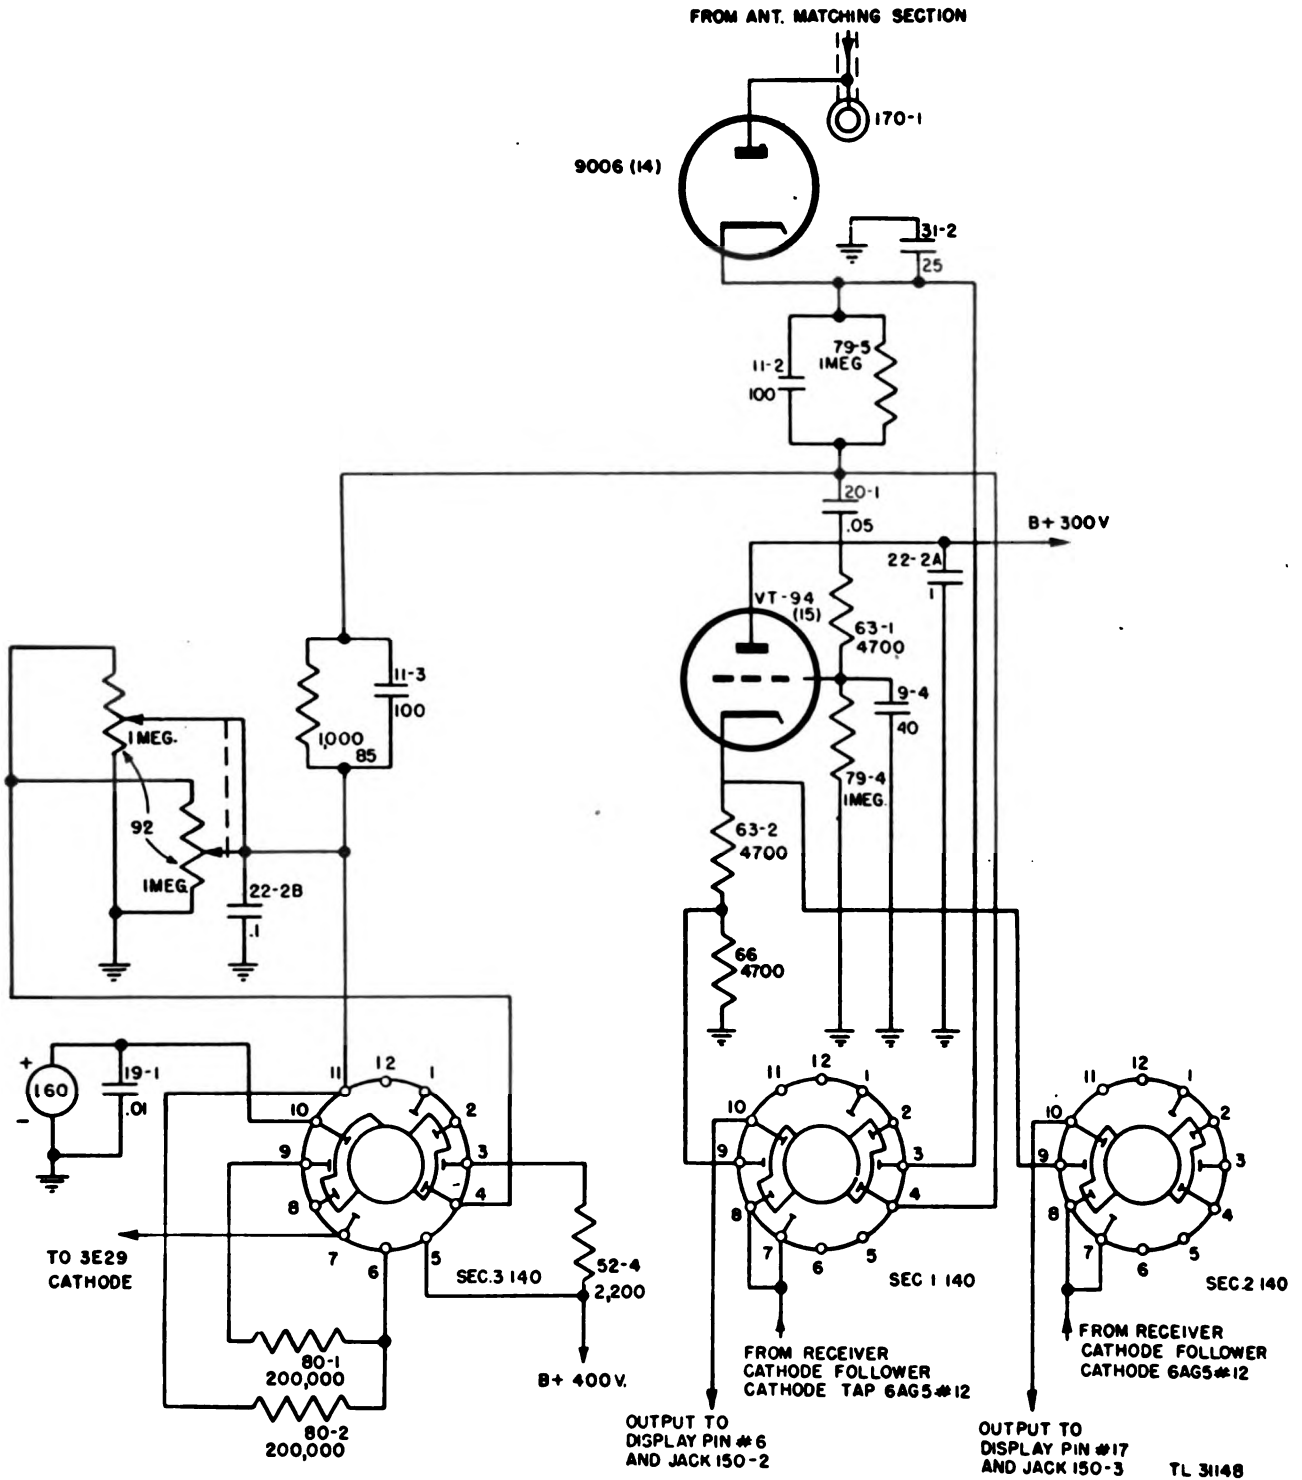

Figure 81. Transmitter, diode measurement circuit, partial schematic.
a. The diode tube 9006 (14) is used to measure the power output and pulse shape of the transmitter. (See fig. 81.) The plate of this diode is connected to the antenna transmission line. Two cathode resistors 79-5 and 85 are connected from cathode to ground. Capacitor 22-2B can be considered a short circuit at pulse frequencies. A test switch provides a means for measuring the power output of the transmitter. This switch has three positions and is spring loaded so that it remains in the OPERATE position. When thrown to the left, the switch connects meter 160 in the cathode circuit of tube 3E29 as previously described in paragraph 89. When thrown to the right the switch performs the following functions, in order to measure transmitter power:
(1) It shorts resistor 79-5 in the cathode circuit of tube 14, thus leaving a low value resistor 85 in the circuit.
(2) It connects a 400-volt supply to the bottom of resistor 85 (potentiometer 92 varies this voltage from zero to 400 volts).
(3) It disconnects the high-receiver output and connects in its place the high output of the cathode follower Tube VT-94 (15) to pin 17 on the plug of the rear of the receiver-transmitter. Pin 17 of this plug is connected to connector 5 on Rack FM-82 and from there is cabled to pin B of connector 105 on the interconnector.
(4) It disconnects the low receiver output and connects in its place the low output of the cathode follower Tube VT-94 (15) to pin 6 on the plug at the rear of the receiver-transmitter. These signals however are not used. This condition arises because the transmitter-receiver was originally designed for use with a slightly different radio equipment.
b. The rectified pulse from tube 14 is applied to the grid of the cathode-follower tube (15) through coupling capacitor 20-1. (See fig. 81.) The output